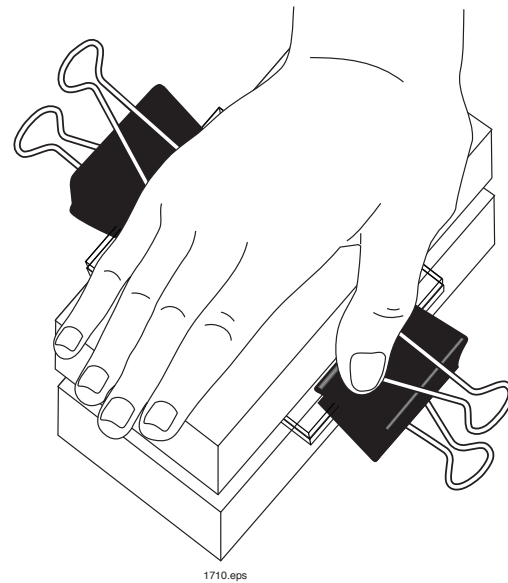

Figure 11. Squeezing out air bubbles.
4. Small amounts of air may have become trapped between the film and the plates and must be removed. If an air bubble moves or some of the air escapes during the exposure, the film can move enough to spoil the hologram. Squeeze this air out of the glass-film "sandwich" by pressing it between two wooden blocks, as shown in Figure 11. Apply hard, even pressure for at least 30 seconds.